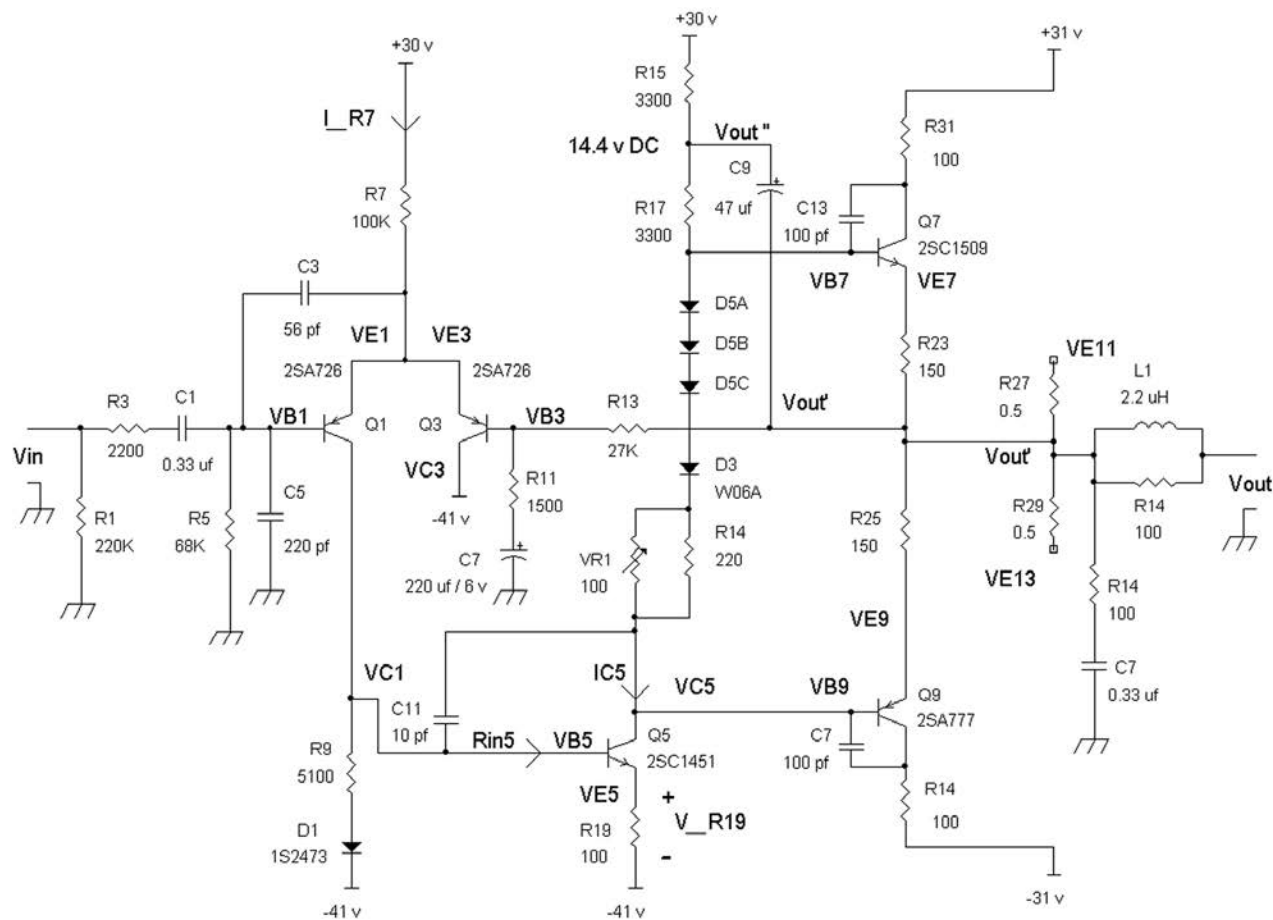

FIGURE 10-10 Schematic with output transistors removed, and driver transistors Q7 and Q9 to V_{out} .
1. With the power turned off, check the resistances from collector to emitter of the output transistors Q11 and Q13. You will need to measure the collector-to-emitter resistances a second time with the probe leads reversed. Typically, if the resistances are $> 10\Omega$, the transistors are fine. But if the collector-to-emitter resistances fall in the 2Ω or less category, chances are that there is a shorted transistor. If you find any one of the output transistors shorted, remove both output transistors Q11 and Q13. See Figure 10-10.